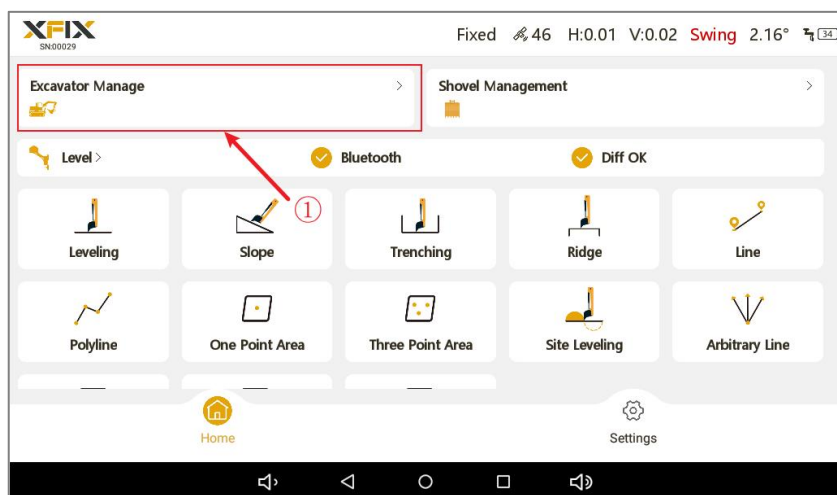
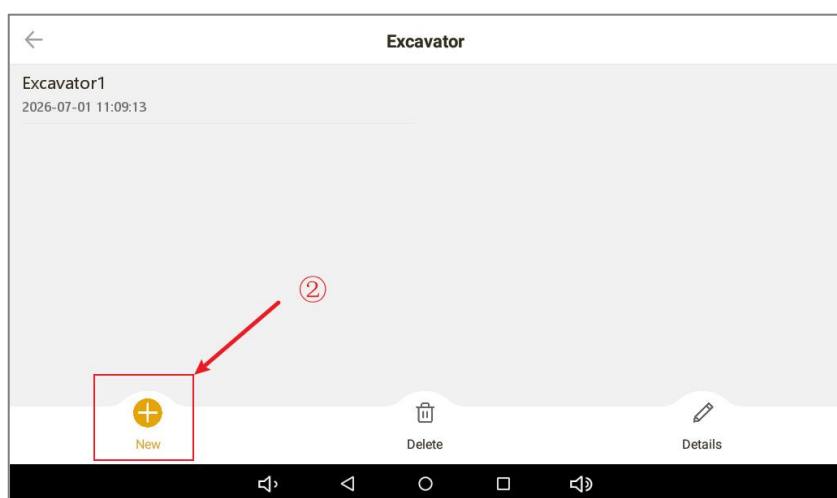

Figure 3-33
Figure 3-34
(2) Connect to the leveling instrument app for calibration.
- ① Clean the contact surface. Before installation, thoroughly clean the corresponding magnetic attachment area on the arm. The device is attached to the side of the arm via strong magnets, as shown in the figure above.
- ② Power on the leveling instrument, open the XFIX app, and connect to the leveling instrument via Bluetooth. (For details, see section 3.1 Bluetooth Connection to EX30.)
- ③ Tap 'Excavator Management', as shown in Figure 3-33, to enter the excavator management screen, as shown in Figure 3-34.